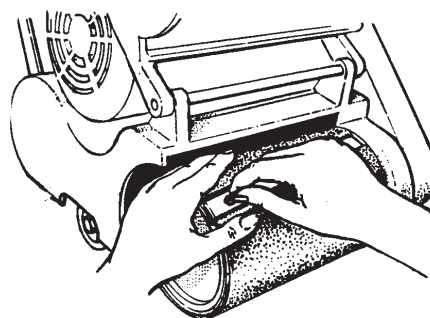

Figure 8
- 6 To install abrasive on sanding drum equipped with paper clamp: loosen screws to paper clamp with a coin. Do not remove screws or clamp from the sanding drum. Insert one edge of abrasive under paper clamp. Rotate sanding drum to wrap abrasive around drum. Insert other edge of abrasive under paper clamp. Center abrasive and take up any slack in the abrasive. Tighten screws on paper clamp. Close drum cover. See Figure 8.